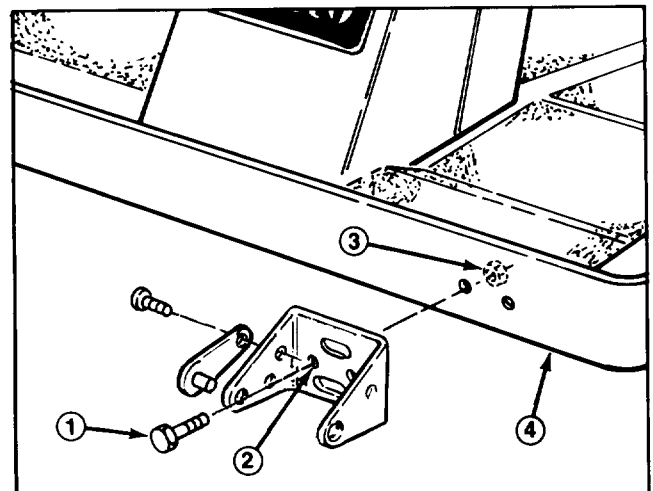

Figure 9
1. 3/8 x 1" flange screw (2)
- B. Groundsmaster 217-D and 220 — Align the bracket with the frame mounting holes. Insert (2) 3/8 x 2-1/4" capscrews through the non-slotted bracket holes and frame mounting holes. Install locknuts and torque to 45-50 ft-lb (Fig. 9).